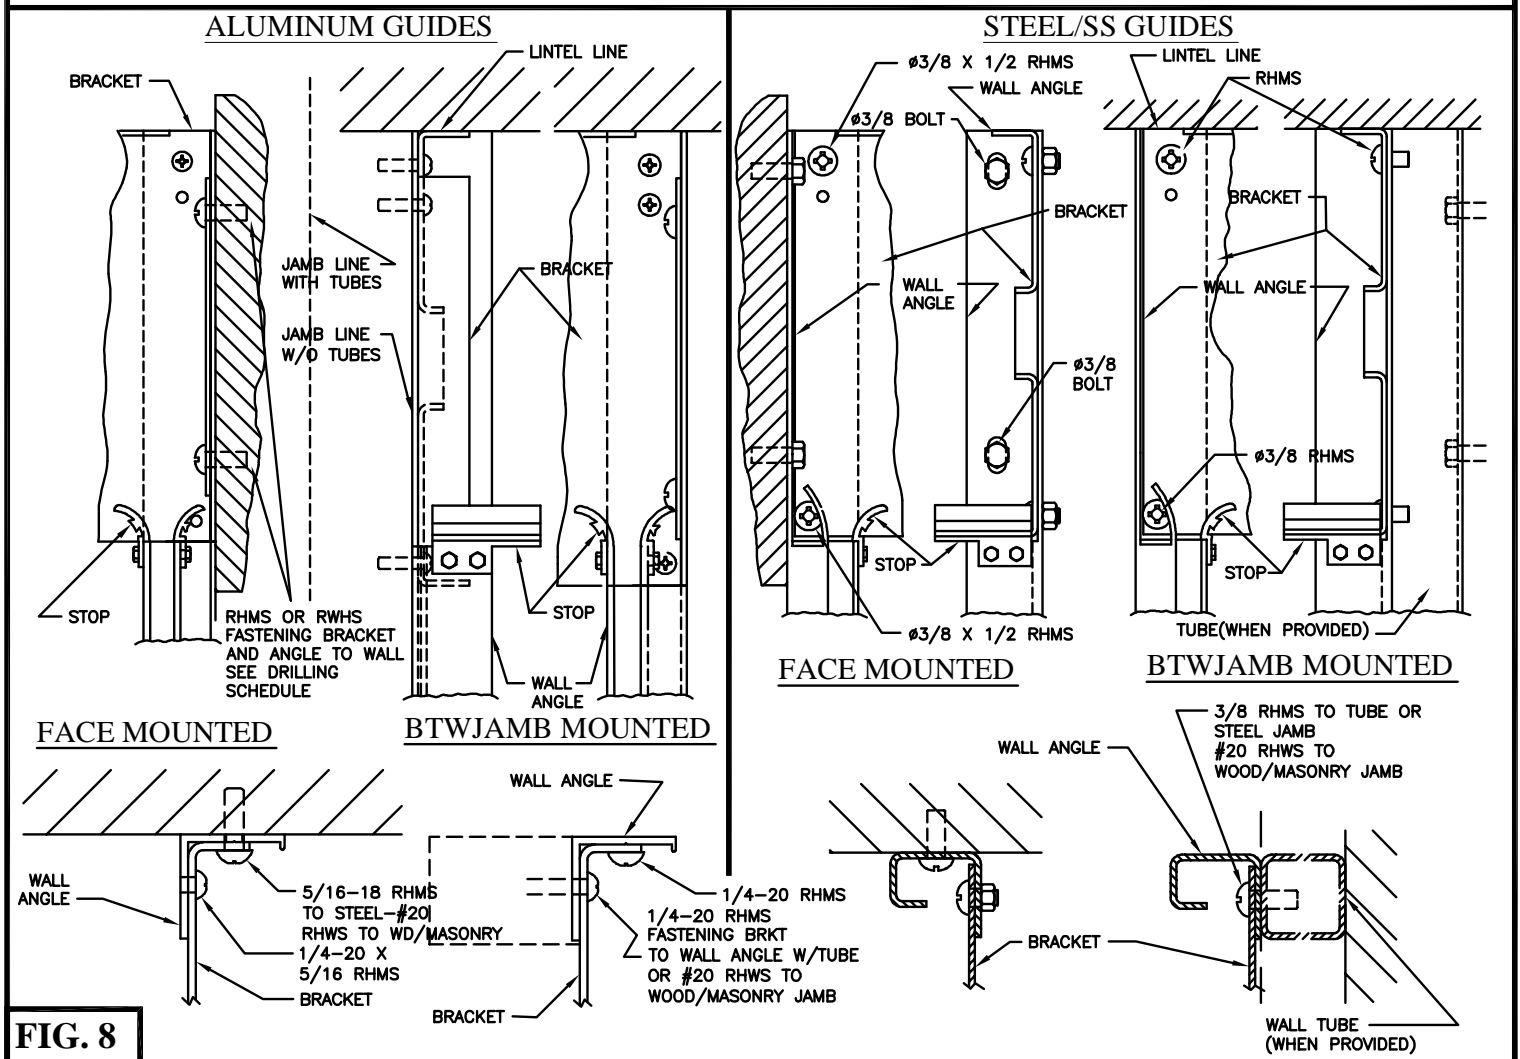

FIG. 8
6) Remove the guide stops from the guides. Now raise the complete assembly into position at the head of the opening and bolt the brackets to the wall angles and jambs as shown in Fig 8 below.